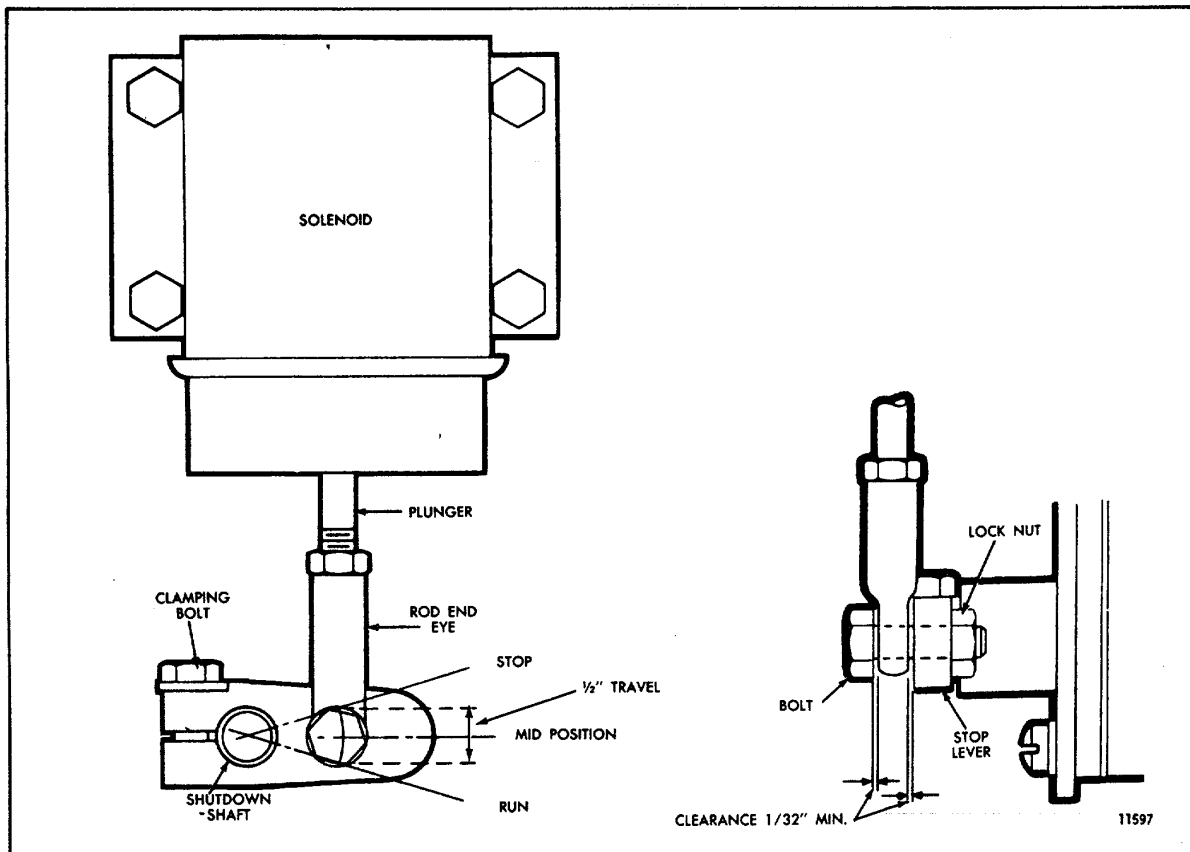

Fig. 6 - Typical Variable Speed Governor Lever Position
1. Remove the bolt connecting the rod end eye (variable speed governor), or the right angle clip (limiting speed governor) to the stop lever (Figs. 6 and 7). Align and clamp the lever to the shutdown shaft in such a way that, at its mid-travel position, it is perpendicular to the solenoid plunger. This assures that the linkage will travel as straight as possible. The solenoid plunger has available 1/2" travel which is more than adequate to move the injector control racks from the full-fuel to the complete no-fuel position and shutdown will occur prior to attaining complete travel.
4. Move the lever to the *stop* position and observe the plunger for any possible bind. If necessary, loosen the Fig. 6 - Typical Variable Speed Governor Lever Position